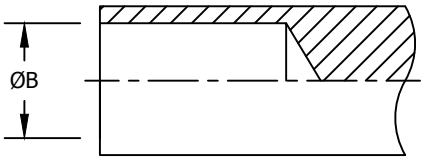

FIGURE 3 - PUNCH (DOLLY, MANDREL)
- 3. INSERT NUT SHANK SQUARELY IN HOLE WHILE SUPPORTING THE STRUCTURE. PLACE THE PUNCH (SEE FIGURE 3) ON THE NUT CROWN AND USE A LIGHT HAMMER BLOW OR SMALL PRESS TO FORCE THE NUT INTO THE STRUCTURE. THE NUT BASE MUST BE FULLY AND SQUARELY SEATED AGAINST THE STRUCTURE.